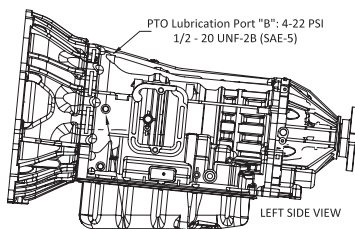

Fig. 11
6. Locate the transmission main pressure port (see figure 11). Remove the installation kit 48TK5472 components from the FA6B PTO carton. Locate the straight fitting (43T39222) and the elbow fitting (43T36445).
9. Locate the transmission PTO lubrication port (see figure 11). Locate the straight fitting (43T39222) and insert (o-ring end first) into the lubrication port "B".